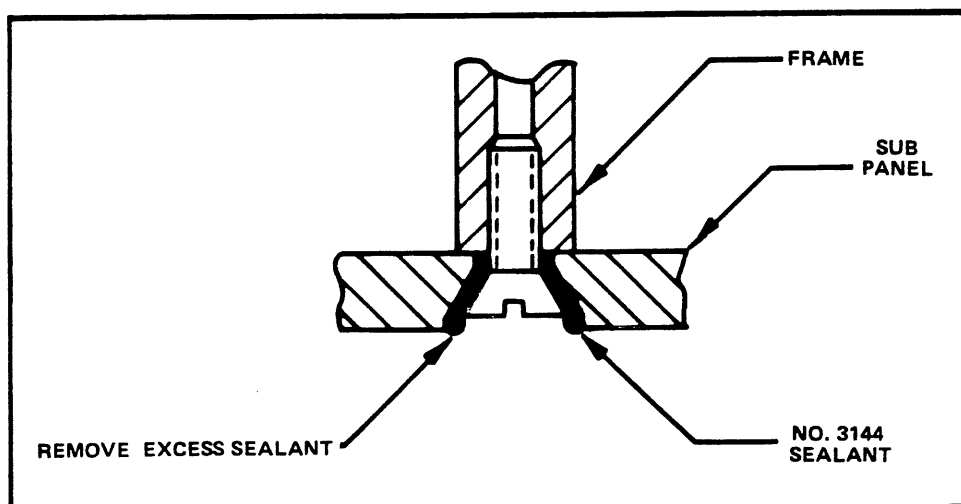

Figure 8. Detail of Subpanel screwhole sealing.
STEP 12. Attach Subpanel to the three Frame Sections (see Figure 8)**A. FRAME SECTIONS**
- (1) 1502: Left, TPN 426-1184-00, MPL Item 3-116; Center, TPN 426-1185-00, MPL Item 3-117; Right, TPN 426-1186-00, MPL Item 3-118.
- (2) 1503: Left, TPN 426-1184-00, MPL Item 3-115; Center, TPN 426-1185-00, MPL Item 3-116; Right, TPN 426-1186-00, MPL Item 3-117.
- (1) Fill the countersunk screw holes on the Subpanel with No. 3144 sealant. See Figure 8.
- (2) Attach the Subpanel to the three Frame sections. The decorative screw is installed in the upper-left corner of the subpanel.